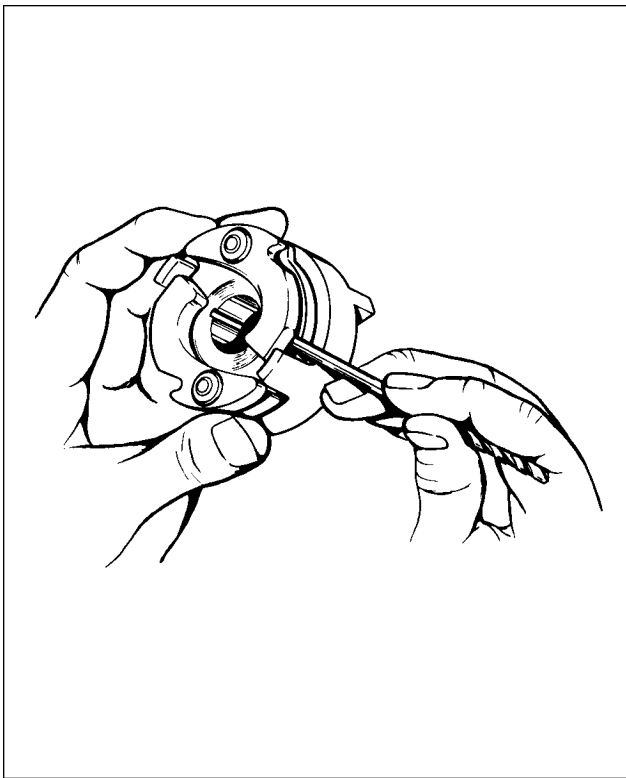

Figure 74-4. Impulse Coupling
13. Inspect impulse coupling parts for excessive wear. Particularly check clearance between cam and flyweights of the cam assembly. Measure the clearance between the cam flyweights using the shank of a new No. 18 drill (0.169 inch diameter). If the drill will fit between cam and flyweight as shown in Figure 74-4, the cam assembly must be replaced. Check clearance between both flyweights and the cam of each cam assembly.